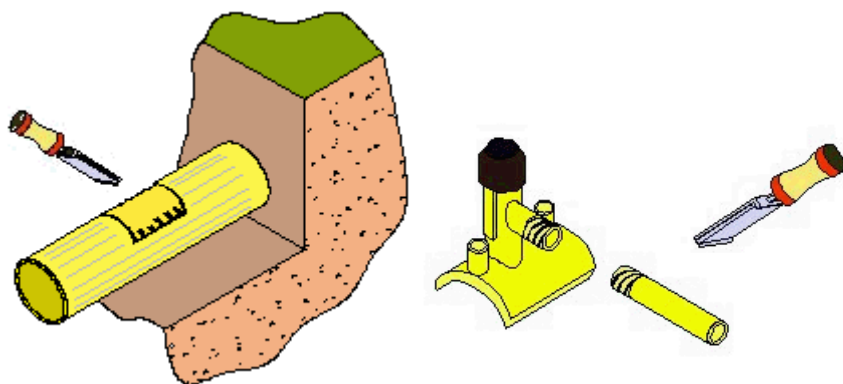

Figure D6 – Scraping of PE80 pipe Figure D7 – Scraping of spigot
16. On PE 80 pipe thoroughly scrape the whole area outlined using a sharp approved scraper Figure D6.